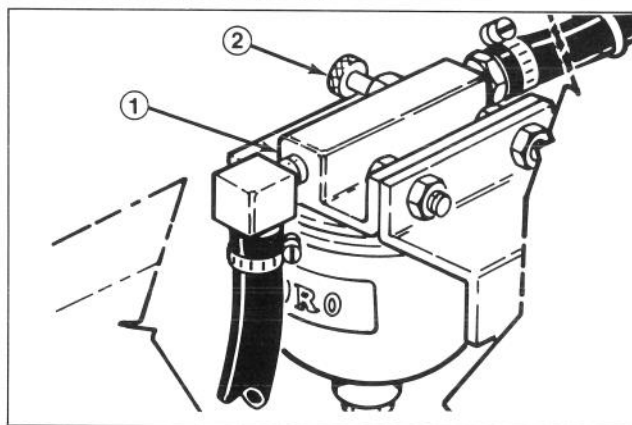

Figure 28
2. Loosen air bleed screw on top of fuel filter/water separator (Fig. 28).